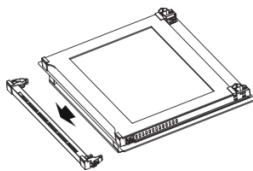

Figure 5
- Pull the upper section of the door frame towards you (Figure 5).